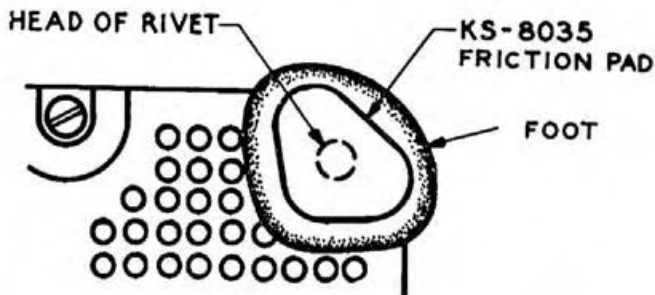

Fig. 11—Base Plate with Foot and Friction Pad Assembled
4.10 Feet that do not meet the requirements in 4.09 shall be equipped with triangular friction pad KS-8035. If the set is already equipped with friction pads and they do not meet specified requirements, they shall be replaced with new friction pads. The pads shall be applied as shown in Fig. 11.